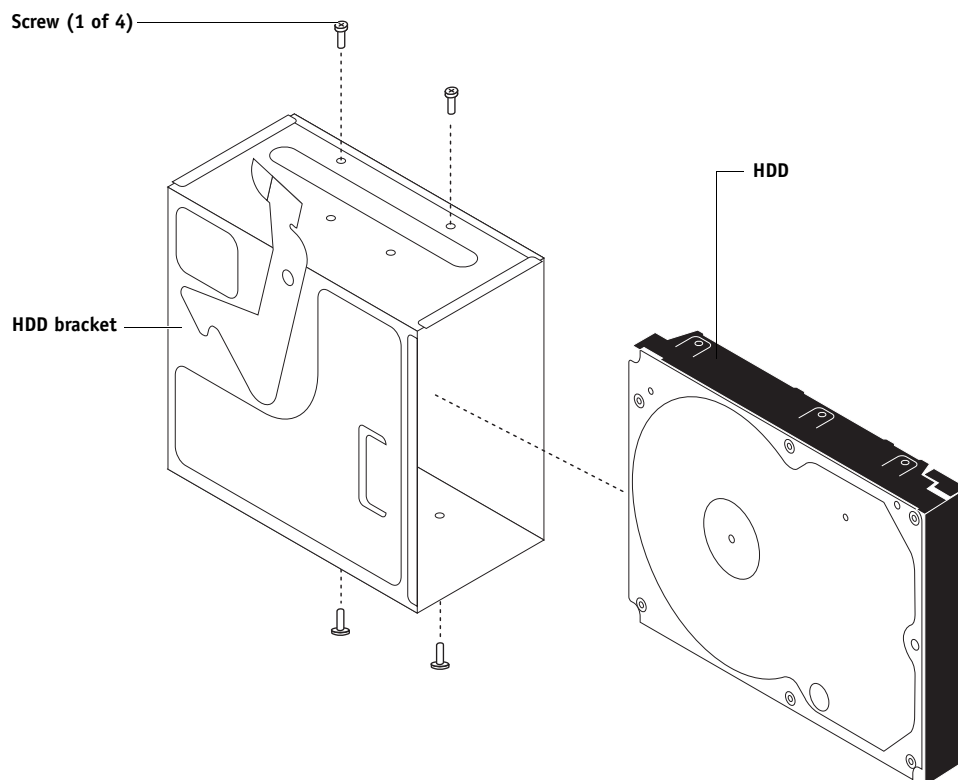

FIGURE 32: Removing the HDD from the HDD bracket
7. Remove the four screws that attach the HDD to the HDD bracket (see Figure 32 on page 91).
2. Position the HDD inside the HDD bracket and align the front-most mounting holes on the HDD with the four holes in the bracket (see Figure 32 on page 91).